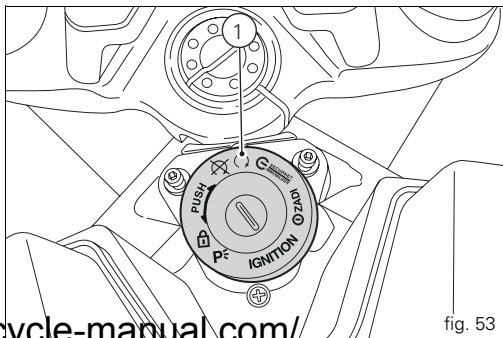

fig. 53
- 1) Turn the ignition switch to position (1, fig. 53).